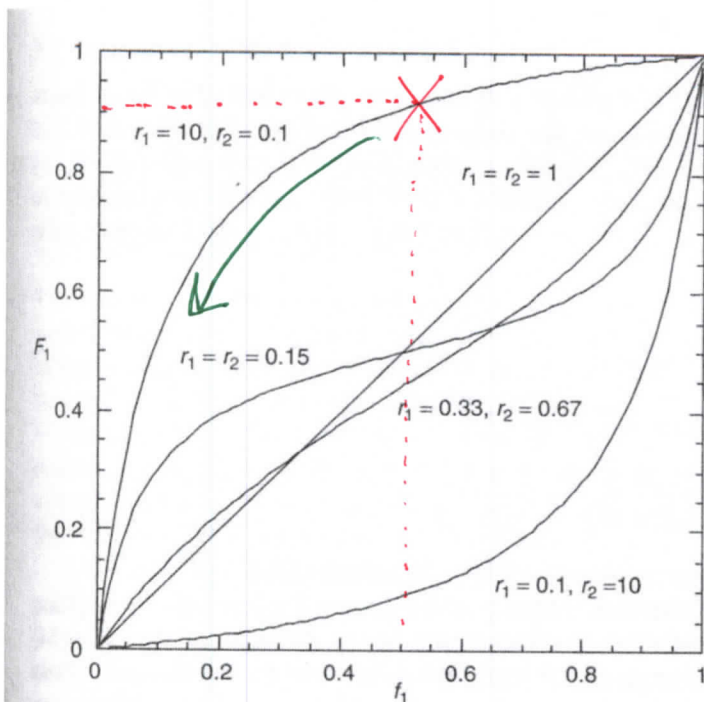

Figure 5.1 Mole fraction of component 1 in the copolymer as a function of feedstock composition for various reactivity ratios.
4. Given data from your textbook Table 5.1, indicating that styrene and vinyl chloride exhibit reactivity ratios $r_1 = 17$ and $r_2 = 0.02$ as comonomers M_1 and M_2 , respectively, undergoing radical copolymerization, and Figure 5.1 below:
- (a) Indicate, with an X drawn at the point on the most relevant plot within Figure 5.1 above, the mole fraction of M_1 that would be incorporated into the initial copolymer formed at an initial feedstock of a stoichiometric equivalence of the two monomers. [5 points]
- (b) Indicate, with an arrow drawn along the most relevant plot within Figure 5.1 above, the direction of change for the mole fraction of M_1 that would be incorporated into later copolymers formed as M_1 is consumed. [5 points]